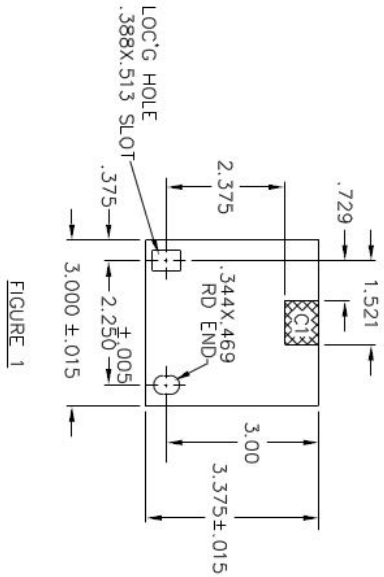

FIGURE 1
1. DETAIL PLATES ARE SAME AS VAC-CLAD (693C436), EXCEPT C1 MATERIAL REMOVED VC-W FIGURE 1.
1. MAKE BLANK PLATE PER FIGURE 1.